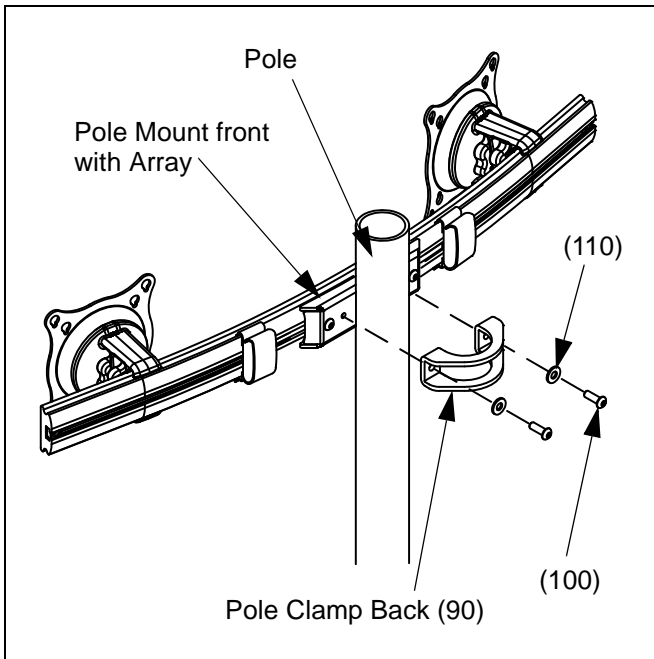

Figure 2: Mount Array on Pole
1. Assemble pole clamp back (90) to pole mount front using two FW (110) and two BHCS (100) using a 5/32" hex key. (See Figure 2)
2. Secure pole mount back (90) to pole mount front and pole by tightening two BHCS (100) using a 5/32" hex key.